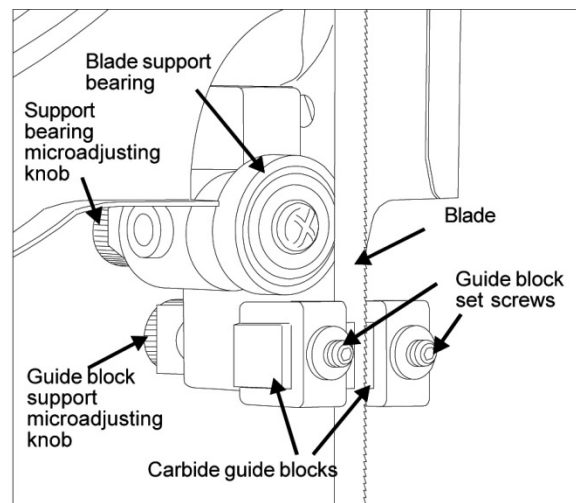

Figure 12: Upper Blade Guides
7. Using a hex wrench, loosen the set screw that locks the lower blade guide and support assembly. Move the assembly to the very rear of its travel by using the micro-adjusting knob on the back side of the assembly (refer to Figure 12).